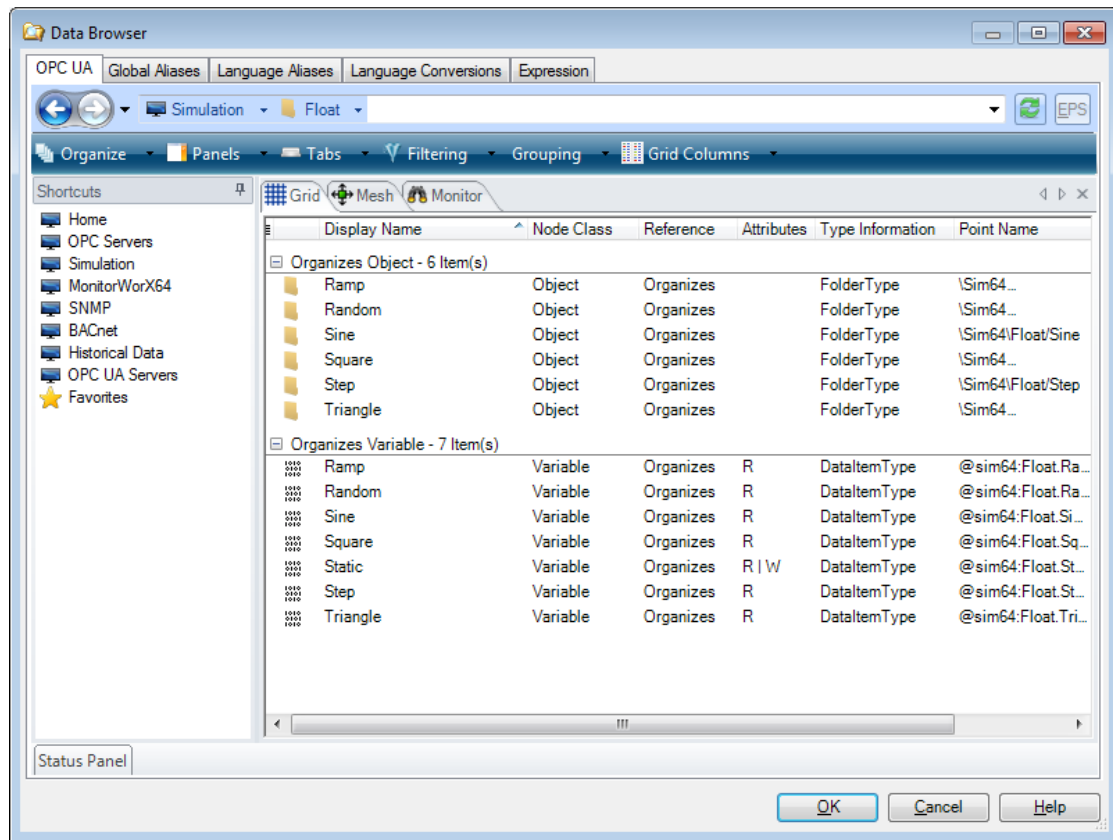

Figure L3.6 - Selecting a Data Source in the Data Browser
3. In the Data Browser that appears, in the navigation pane, click **Home** → **OPC Classic Servers** → **My Server** → **Simulations** and then double-click on the **Float** folder. The Data Browser will look something like the illustration in Figure L3.6.